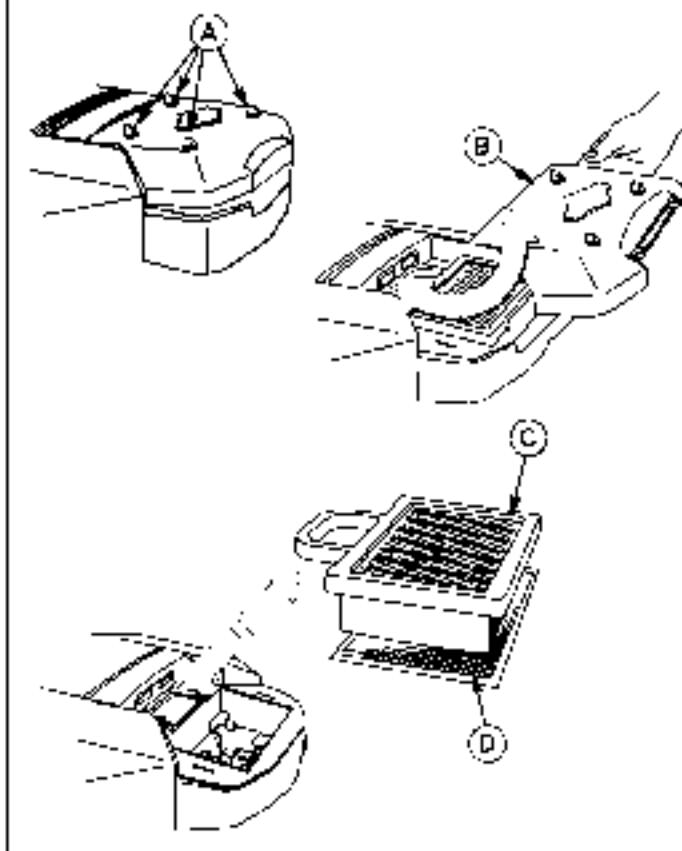

Figure 19. Air Filter Assembly
1. Unscrew the four screws (A, Figure 19) by turning counterclockwise.